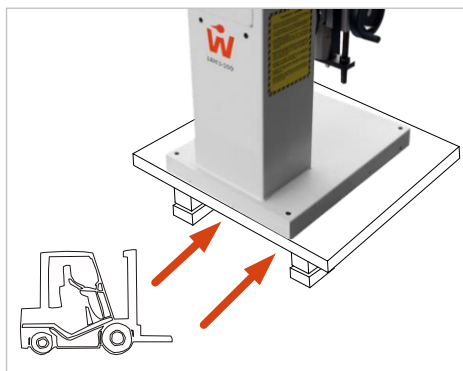

Figure 5: Transport pallet
- Drive between the pallet timbers with a forklift truck or pallet truck suitable for the weight of the machine (see ⇒ Figure 5), lift the pallet only a few centimetres and move it to the immediate vicinity of the installation site.